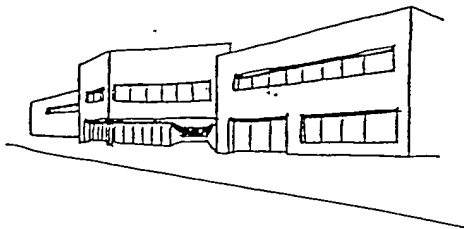

Figure 27
- ☐ *Avoid unbroken facades in excess of 150 feet in length on non-street frontages. Use wall plane offsets or other methods to add variety and interest to facades (Figure 27).*